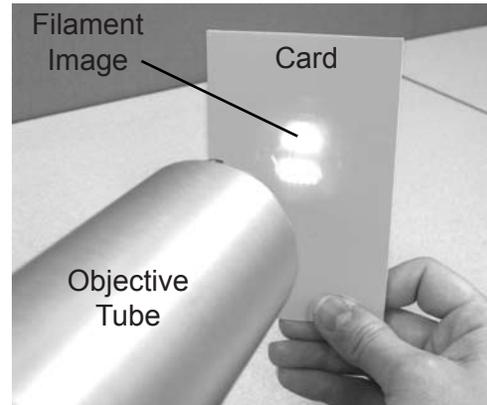

Figure MM-11 Filament Image
5. Turn on the projector and hold a card or piece of paper 1" (25mm) in front of the objective tube. Refer to Figure MM-11.
6. Adjust the 3 Adjustment Screws located on the bulb base so that the image of the filament is centered and in best focus. Refer to Figures MM-11 and MM-12.